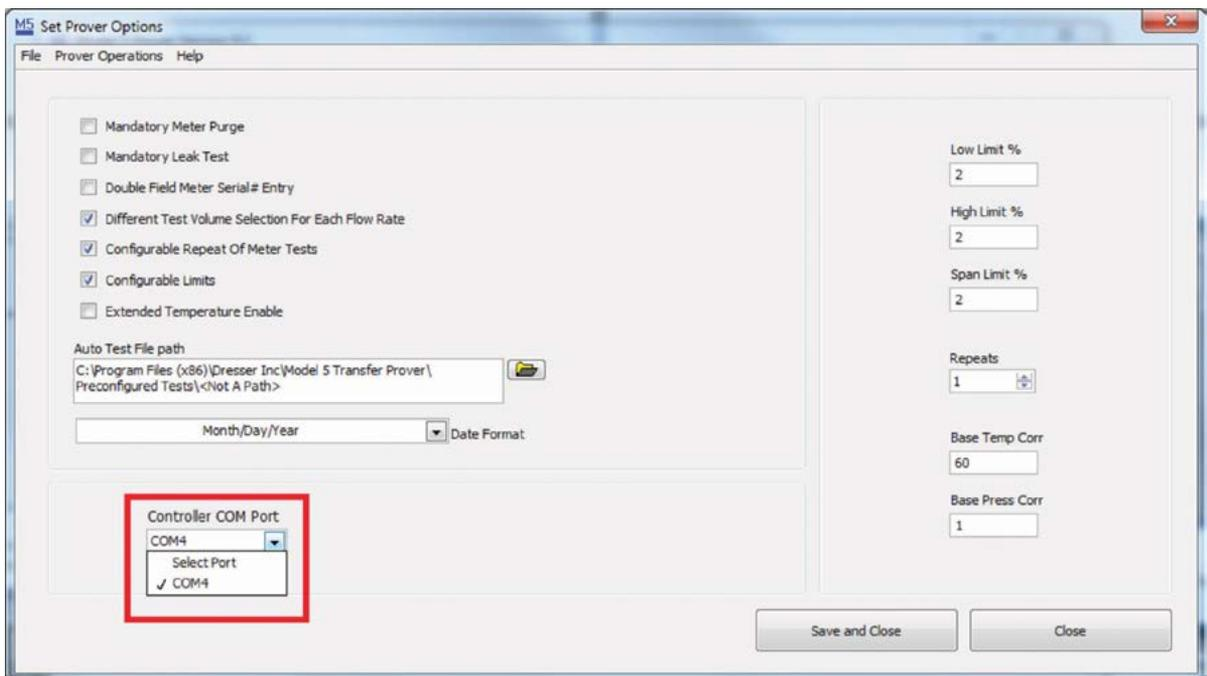

Figure 122: Prover Setup Screen and Controller COM Port
- A second window will appear as shown in **Figure 122**. Take note of the Control COM Port Field. Notice, only COM Ports in use are available for selection. Select the COM port (Refer to **Step 2**.)